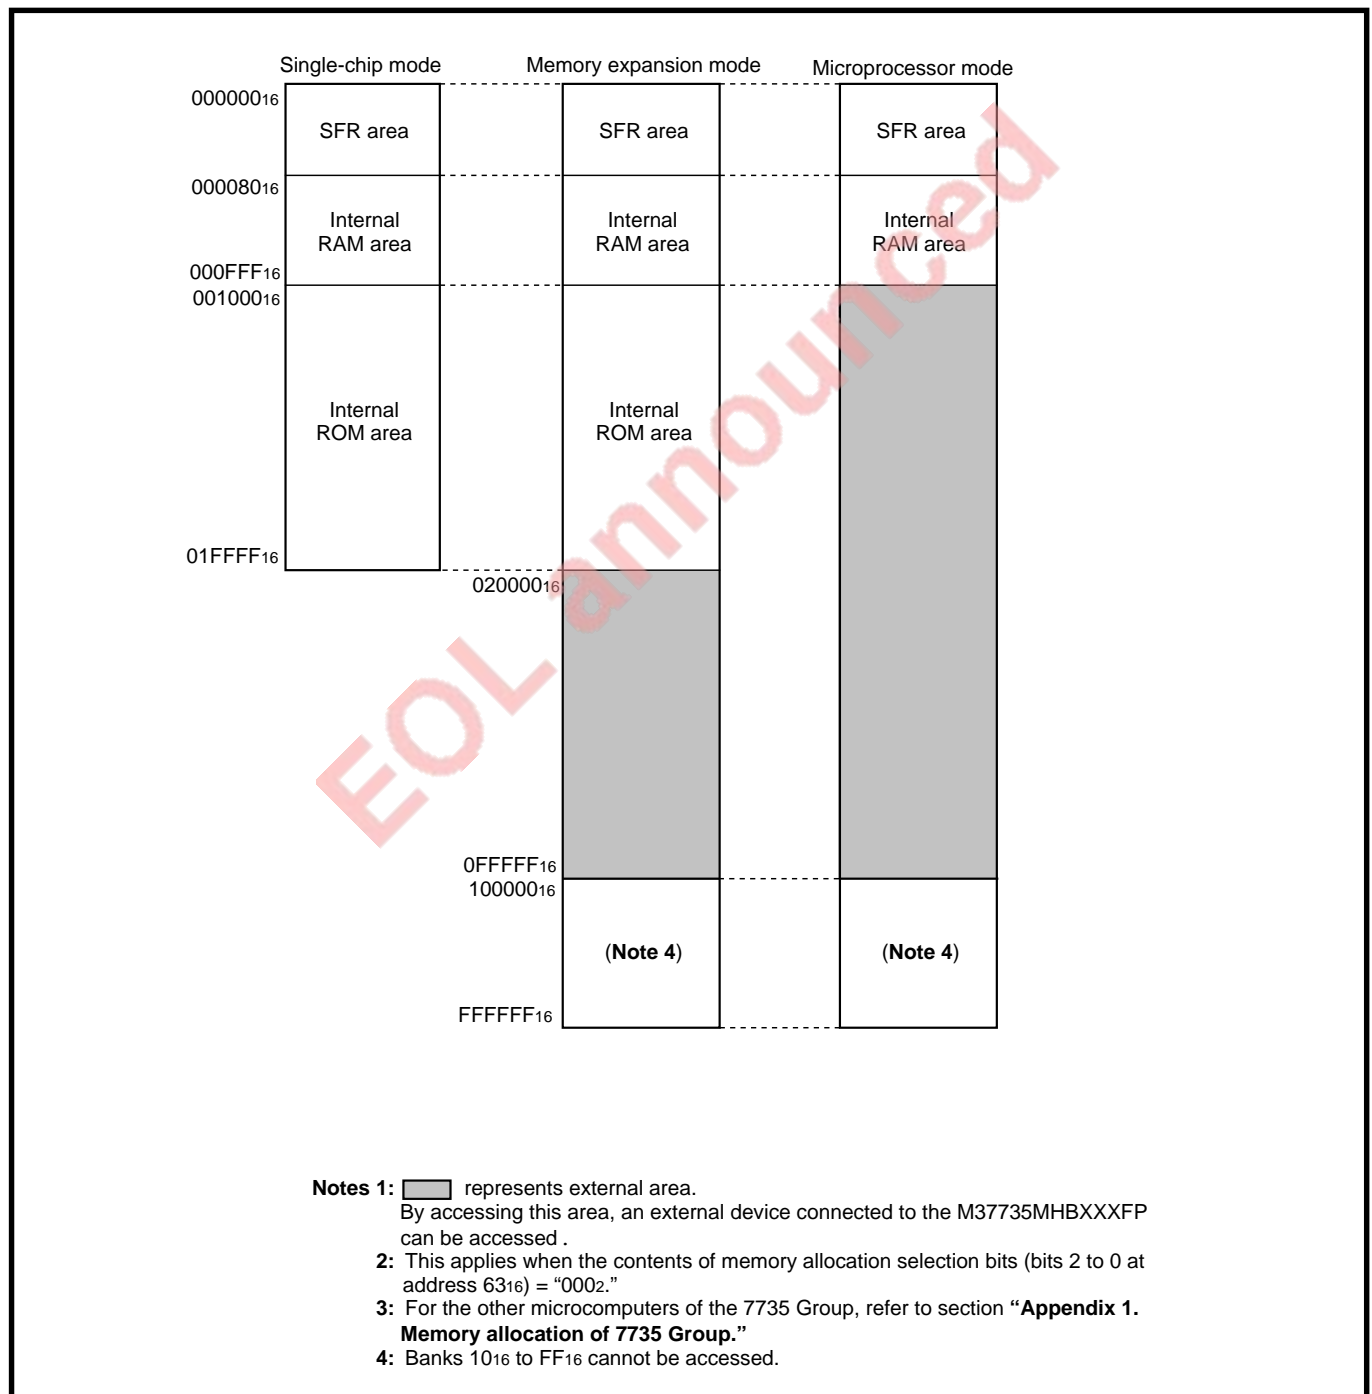

Fig. 2.5.1 Memory map in each processor mode (M37735MHBXXXFP)
- “Fig. 2.5.1 Memory map in each processor mode”